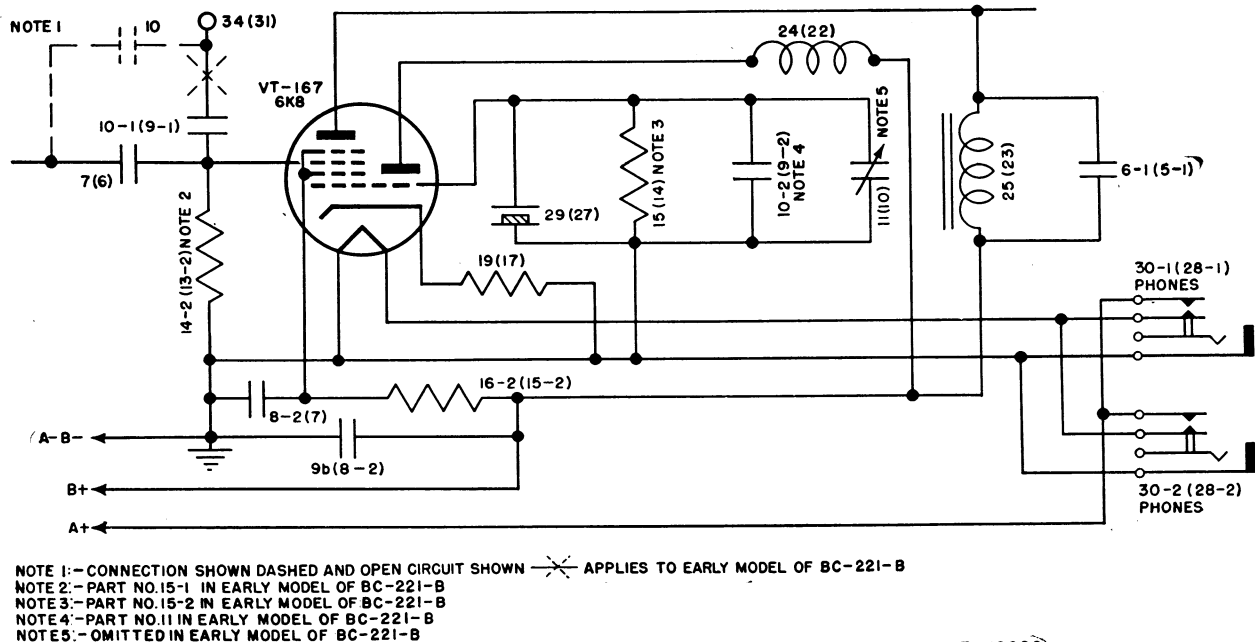

Figure 37 Frequency Meter BC-221-(2), functional diagram, crystal-oscillator circuit.
The crystal circuit uses the triode section of Tube VT-167 (6K8) shown in figure 37. The oscillator operates at the fixed frequency of 1,000 kc when the operation switch 27 (26) is placed in the CRYSTAL or CHECK position. The operation switch controls the crystal oscillator by opening or closing its plate voltage circuit. The oscillator circuit is designed to generate considerable harmonic energy so that it can be used to calibrate the variable frequency oscillator at several points over its entire range, as well as to supply whole multiples of 1,000 kc for the calibration of receivers and similar equipment. The necessary plate circuit impedance is built up across an untuned inductance 24 (22), included in a metal can. Resistor 15 (14), part No. 15-2 in the early model BC-221-B, is the oscillator grid leak and works in conjunction with the tube cathode resistor 19 (17). The variable capacitor 11 (10) is connected across the crystal
29 (27) for the purpose of adjusting the frequency of the crystal to a closer point than can be economically obtained by grinding alone. When the frequency meters are adjusted during manufacture, the variable capacitor is set up to produce a frequency of $1,000 \text{ kc} \pm 5$ cycles at 20° centigrade. The fixed capacitor 10-2 (9-2), shunted across the crystal, minimizes any change in fundamental frequency due to small changes in the crystal capacitance. It should be noted, that part No. 11 (10) was omitted from the early BC-221-B, and that part No. 10-2 (9-2) was part No. 11. Further reference to figure 37 shows that the output of the crystal oscillator is electron coupled to the antenna through the No. 3 grid of the hexode section of Tube VT-167 and the capacitor 10-1 (9-1). Note further, that in the case of the early BC-221-B, this connection was made by capacitors 7 (6) and 10 in series. For further details on the crystal oscillator, see paragraph 22.